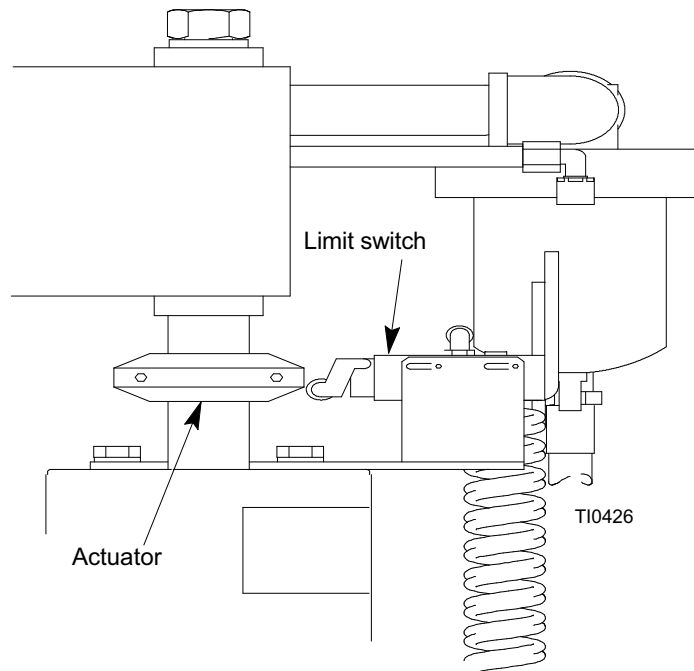

FIG. 8
- Verify that the Follower Plate (D) lowers to the limit set point: a level between 1 to 4 in. (25.4 to 101.6 mm) from the bottom of the drum.
- Adjust the actuator to activate the switch at the level defined in step 21.b. See FIG. 8.